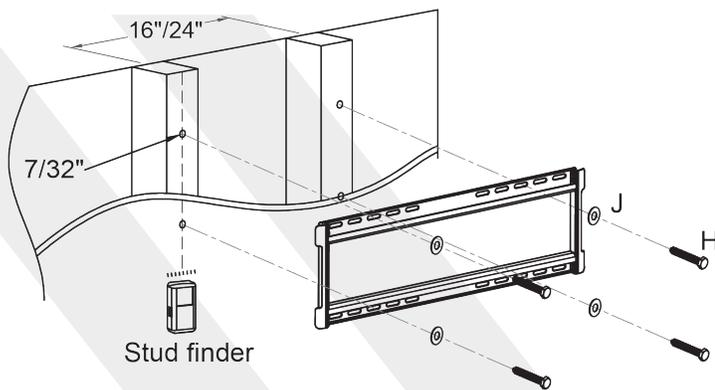

Figure 2 (keep the wall plate level)
- Fix the wall plate by using the lag bolt screws (H) and washers (J) (Figure 2)